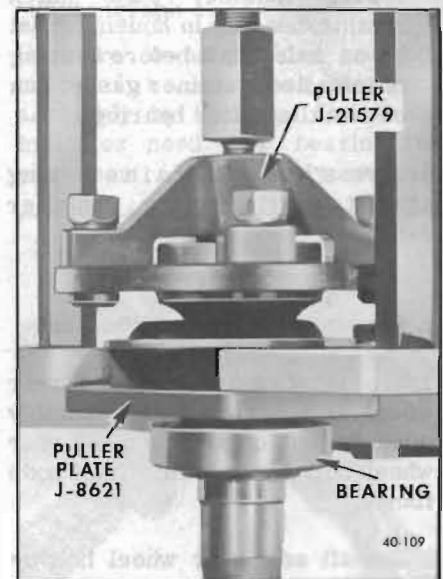

Figure 40-97—Removing Axle Shaft Bearing
2. Press axle shaft bearing off using Puller Plate J-8621 with Remover J-6525. An arbor press may be used or a set-up may be made using Ram and Yoke Assembly with Adapter J-6258 and puller J-21579. See Figure 40-97.